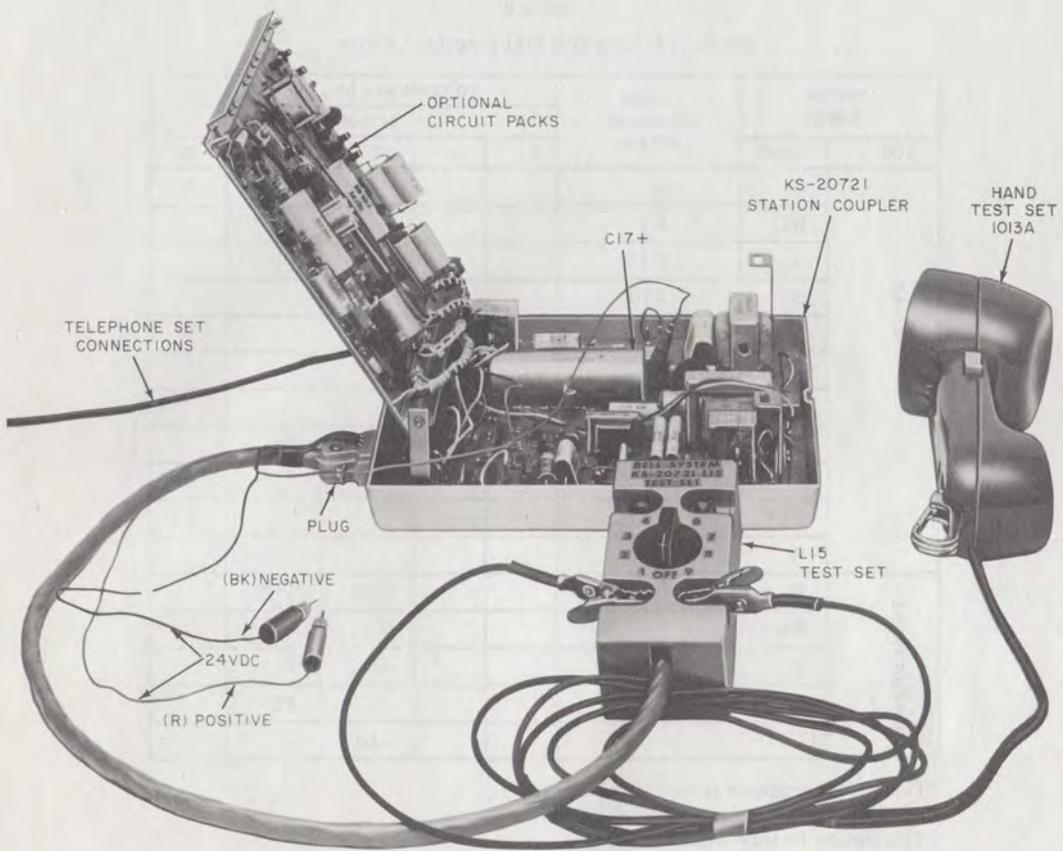

Fig. 6—KS-20721 Station Coupler With KS-20721, List 15 Test Set and 1013A Hand Test Set
- Set, Test, KS-20721, L15 (Fig. 6).
**2.06** The KS-20721, List 15 test set plugs into the connector on the station coupler and is used with a 1013A hand test set (or equivalent) to test the operation of the coupler independent of the CPE (Fig. 6).
**4.06** The List 15 test set (Fig. 6 and 8) used with the 1013A hand test set (or equivalent) and a connecting cable terminated in a plug for connection to the station coupler permits checkout of the coupler independent of the CPE.
3	Connect a 1013A (or equivalent) hand test set to terminals provided on test set (Fig. 6).